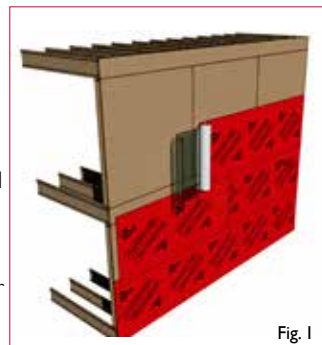

Fig. 1
6. Starting in the middle, use a hand roller or stiff brush to smooth out any air bubbles, releasing the air to each side (Fig.1).